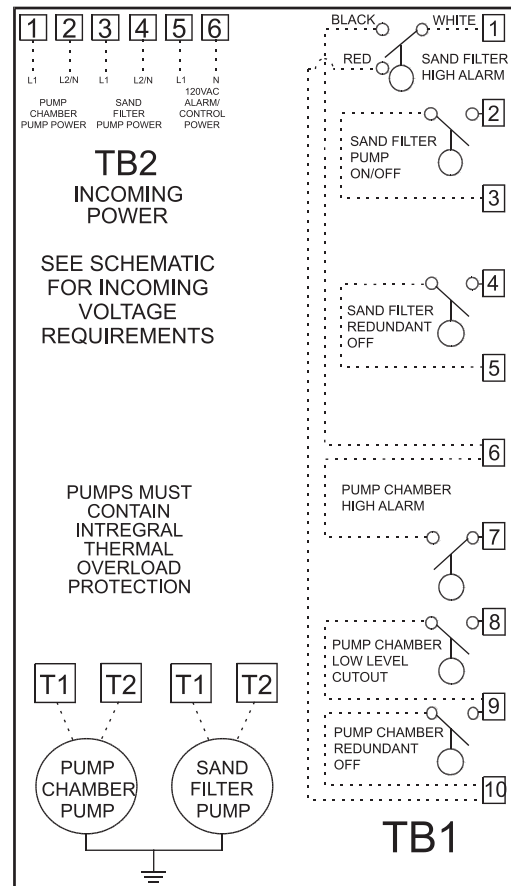

FIGURE 5 - PS11 120V pump wiring diagram
12. Connect pump wires and float switch wires to the proper terminals as seen in **Figure 5**.
13. Connect “power-in” conductors to proper locations as shown in **Figure 5**.